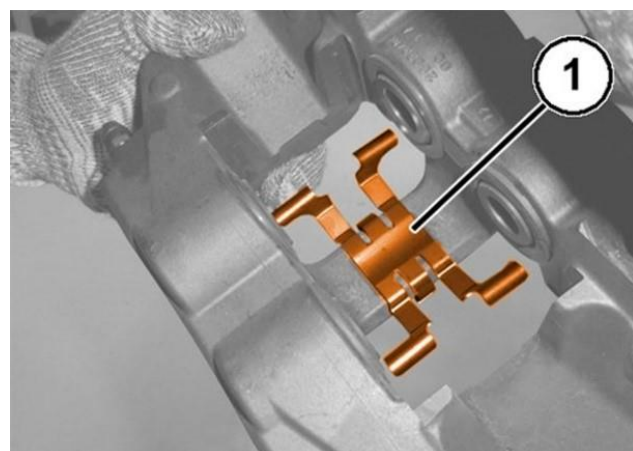

Figure 10 – Retaining Spring
31. Remove and **DISCARD** the brake caliper retaining clip (1) (Figure 10).